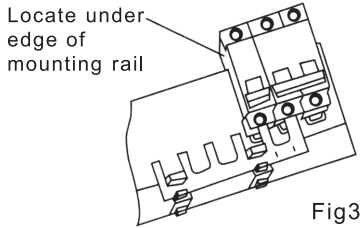

Fig3
- 4.1 Slide MCBs on to busbar. (Fig.3)